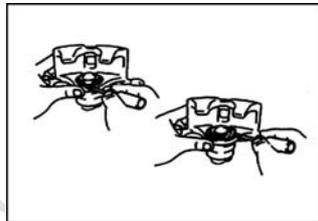

Fig. 2-66
- 12) Remove the oil seal of piston. Take out the oil seal from the slave cylinder. See Fig. 2-66.